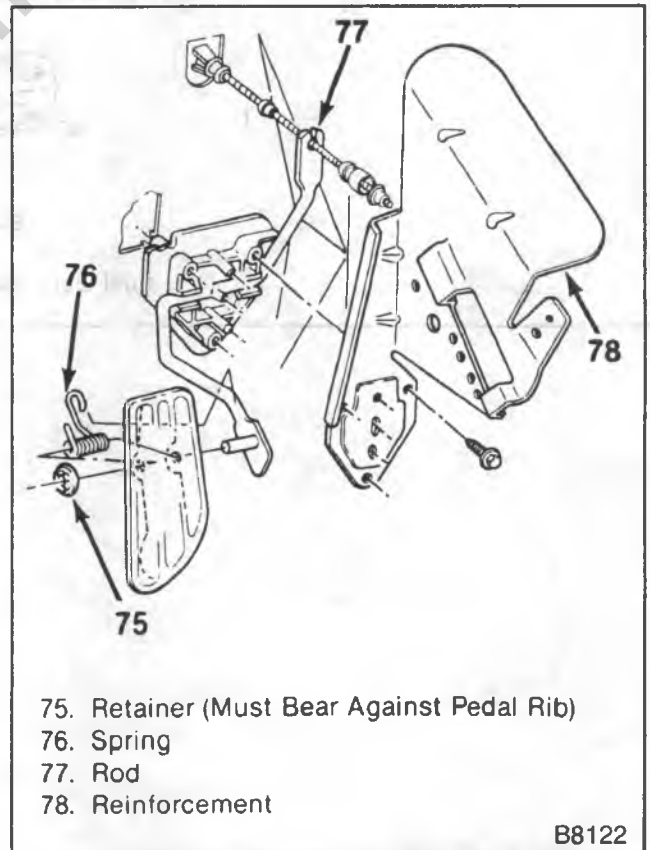

Figure 23—Accelerator Pedal Assembly
- Slip the accelerator control cable through the slot in the rod before installing the retainer in the rod. Make sure it is seated properly. Use care in pressing the retainer into the hole so the cable is not kinked or damaged (figure 23).